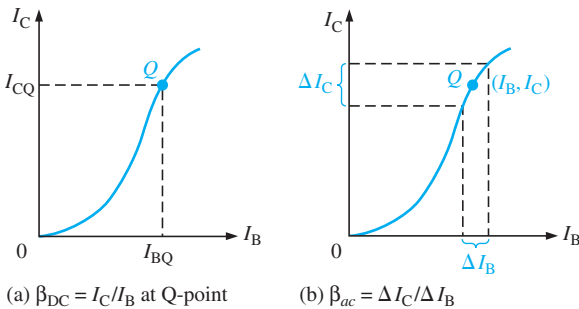

FIGURE 6–7
A linear amplifier provides amplification of a signal without any distortion so that the output signal is an exact amplified replica of the input signal. A voltage-divider biased transistor with a sinusoidal ac source capacitively coupled to the base through C_1 and a load capacitively coupled to the collector through C_2 is shown in Figure 6–2. The coupling capacitors block dc and thus prevent the internal source resistance, R_s , and the load resistance, R_L , from changing the dc bias voltages at the base and collector. The capacitors ideally appear as shorts to the signal voltage. The sinusoidal source voltage causes the base voltage to vary sinusoidally above and below its dc bias level, V_{BQ} . The resulting variation in base current produces a larger variation in collector current because of the current gain of the transistor.
◀ FIGURE 6–2
As the sinusoidal collector current increases, the collector voltage decreases. The collector current varies above and below its Q-point value, I_{CQ} , in phase with the base current. The sinusoidal collector-to-emitter voltage varies above and below its Q-point value, V_{CEQ} , 180° out of phase with the base voltage, as illustrated in Figure 6–2. A transistor always produces a **phase inversion** between the base voltage and the collector voltage.
A Graphical Picture The operation just described can be illustrated graphically on the ac load line, as shown in Figure 6–3. The sinusoidal voltage at the base produces a base current that varies above and below the Q-point on the ac load line, as shown by the arrows.
◀ FIGURE 6–3
For a typical transistor, a graph of I_C versus I_B is nonlinear, as shown in Figure 6–7(a). If you pick a Q-point on the curve and cause the base current to vary an amount ΔI_B , then the collector current will vary an amount ΔI_C as shown in part (b). At different points on the nonlinear curve, the ratio $\Delta I_C/\Delta I_B$ will be different, and it may also differ from the I_C/I_B ratio at the Q-point. Since $\beta_{DC} = I_C/I_B$ and $\beta_{ac} = \Delta I_C/\Delta I_B$, the values of these two quantities can differ slightly.
The ac equivalent circuit for the common-emitter amplifier in Figure 6–8 is shown in Figure 6–10(a). Notice that both R_C and R_1 have one end connected to ac ground (red) because, in the actual circuit, they are connected to V_{CC} which is, in effect, ac ground.
► **FIGURE 6–10**
AC equivalent circuit for the amplifier in Figure 6–8.
In ac analysis, the ac ground and the actual ground are treated as the same point electrically. The amplifier in Figure 6–8 is called a common-emitter amplifier because the bypass capacitor C_2 keeps the emitter at ac ground. Ground is the common point in the circuit.
Signal (AC) Voltage at the Base An ac voltage source, V_s , is shown connected to the input in Figure 6–10(b). If the internal resistance of the ac source is 0Ω , then all of the source voltage appears at the base terminal. If, however, the ac source has a nonzero internal resistance, then three factors must be taken into account in determining the actual signal voltage at the base. These are the *source resistance* (R_s), the *bias resistance* ($R_1 \parallel R_2$), and the *ac input resistance* at the base of the transistor ($R_{in(base)}$). This is illustrated in Figure 6–11(a) and is simplified by combining R_1 , R_2 , and $R_{in(base)}$ in parallel to get the total **input resistance**, $R_{in(tot)}$, which is the resistance “seen” by an ac source connected to the input, as shown in Figure 6–11(b). A high value of input resistance is desirable so that the amplifier will not excessively load the signal source. This is opposite to the requirement for a stable Q-point, which requires smaller resistors. The conflicting requirement for high input resistance and stable biasing is but one of the many trade-offs that must be considered when choosing components for a circuit. The total input resistance is expressed by the following formula: